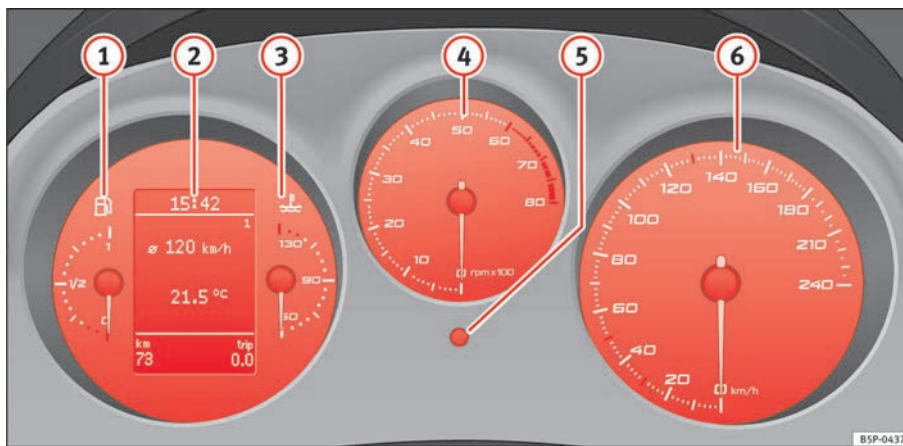

Fig. 33 Detailed view of instrument panel: instrument panel
The start of the red zone ⇒ page 57, fig. 33  indicates the maximum engine speed operating at service temperature. However, it is advisable to change up into a higher gear, move the selector lever to D or lift your foot off the accelerator before the needle reaches the red zone.
- Turn the setting knob ⇒ page 57, fig. 33  clockwise until the first “click” to set the hour. The hour will flash. To change the hour, press the button.
The right-hand counter registers the short journeys. The last digit indicates steps of 100 metres. The trip recorder counter may be reset by holding down the reset button ⇒ page 57, fig. 33 ⑥ for a few seconds.